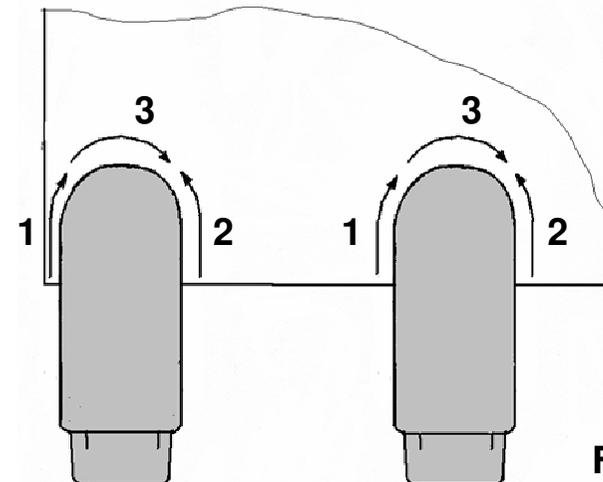

Fig 2
- ❑ Turn the base cutting edge over and complete all the welding on the bottom side using the weld sequences shown in figure 2.